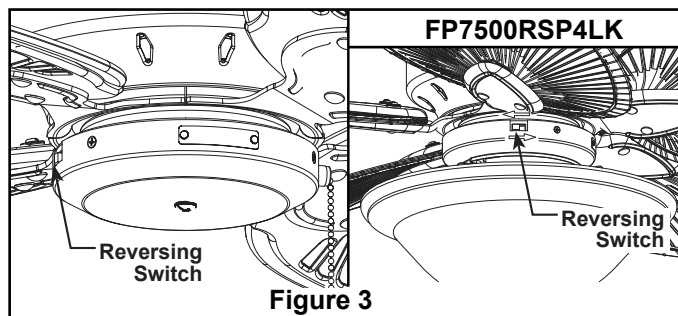

Figure 3
4. Carefully lift the fan and seat the downrod/hanger ball assembly on the hanger bracket that was just attached to the ceiling joist. Be sure the groove in the ball is lined up with tab on the hanger bracket. (Figure 3)
5. Attach the safety cable to ceiling support cable. Slide cable clamp onto safety cable (from fan). Place the end of cable through the loop of ceiling support cable. Pull as much cable through loop as possible. Feed end of cable into clamp hole and firmly tighten screw (Figure 3). Cut off excess safety cable.
5. Attach assembled blades and blade holders to the motor hub using the provided screws & lock washers. (Figure 3)
3. Install pull chains and fobs. (Figure 3)
3. If airflow is desired in the opposite direction, turn the fan off and wait for the blades to stop turning. Then slide the reverse switch to the opposite position and turn fan on again. Your fan model is equipped with a 4-position, 3-speed, pull chain switch. The operating sequence is as follows: (Figure 3)